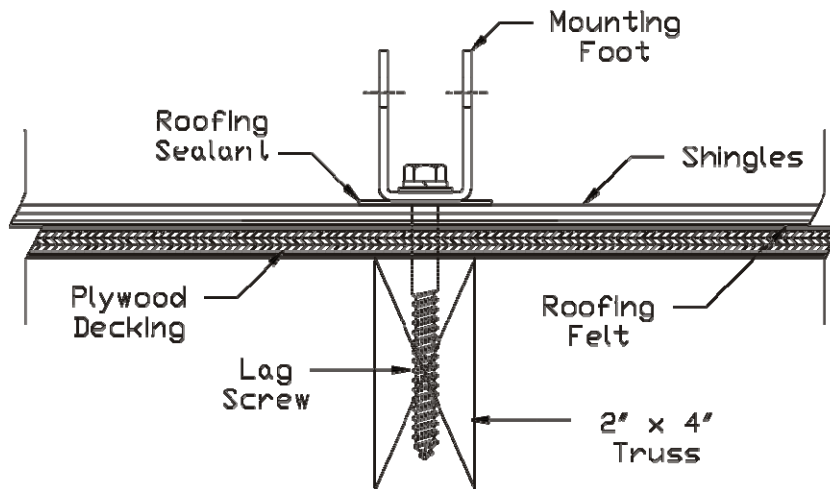

Figure 8: Lag Bolt Mounting
2. The AE-FM are now attached directly to the roof with 3/8" SS mounting bolts (not supplied) extending all the way through the roof trusses or 3/8" lag bolts (not supplied) drilled directly into the roof trusses as shown in Figure 8. Thoroughly check the tightness of all bolts and screws.
A washer and nut secures the all-thread to the bracket (be sure the seal underneath the washer and on top of the nut). The all-thread rod should extend about 4" below the roof rafters. Drill a 3/8" hole in a 2 x 4 and insert the all-thread rod through it. The 2 x 4 should span 2 rafters. With a washer and double nut secure the all-thread to the 2 x 4. Spacer blocks (as shown in Figure 8) should be installed where the threaded rod is 2" or more from the rafter. Tighten down until the bracket is tightly secured to the roof. Be careful not to over-tighten and bell out the roof underneath the bracket.